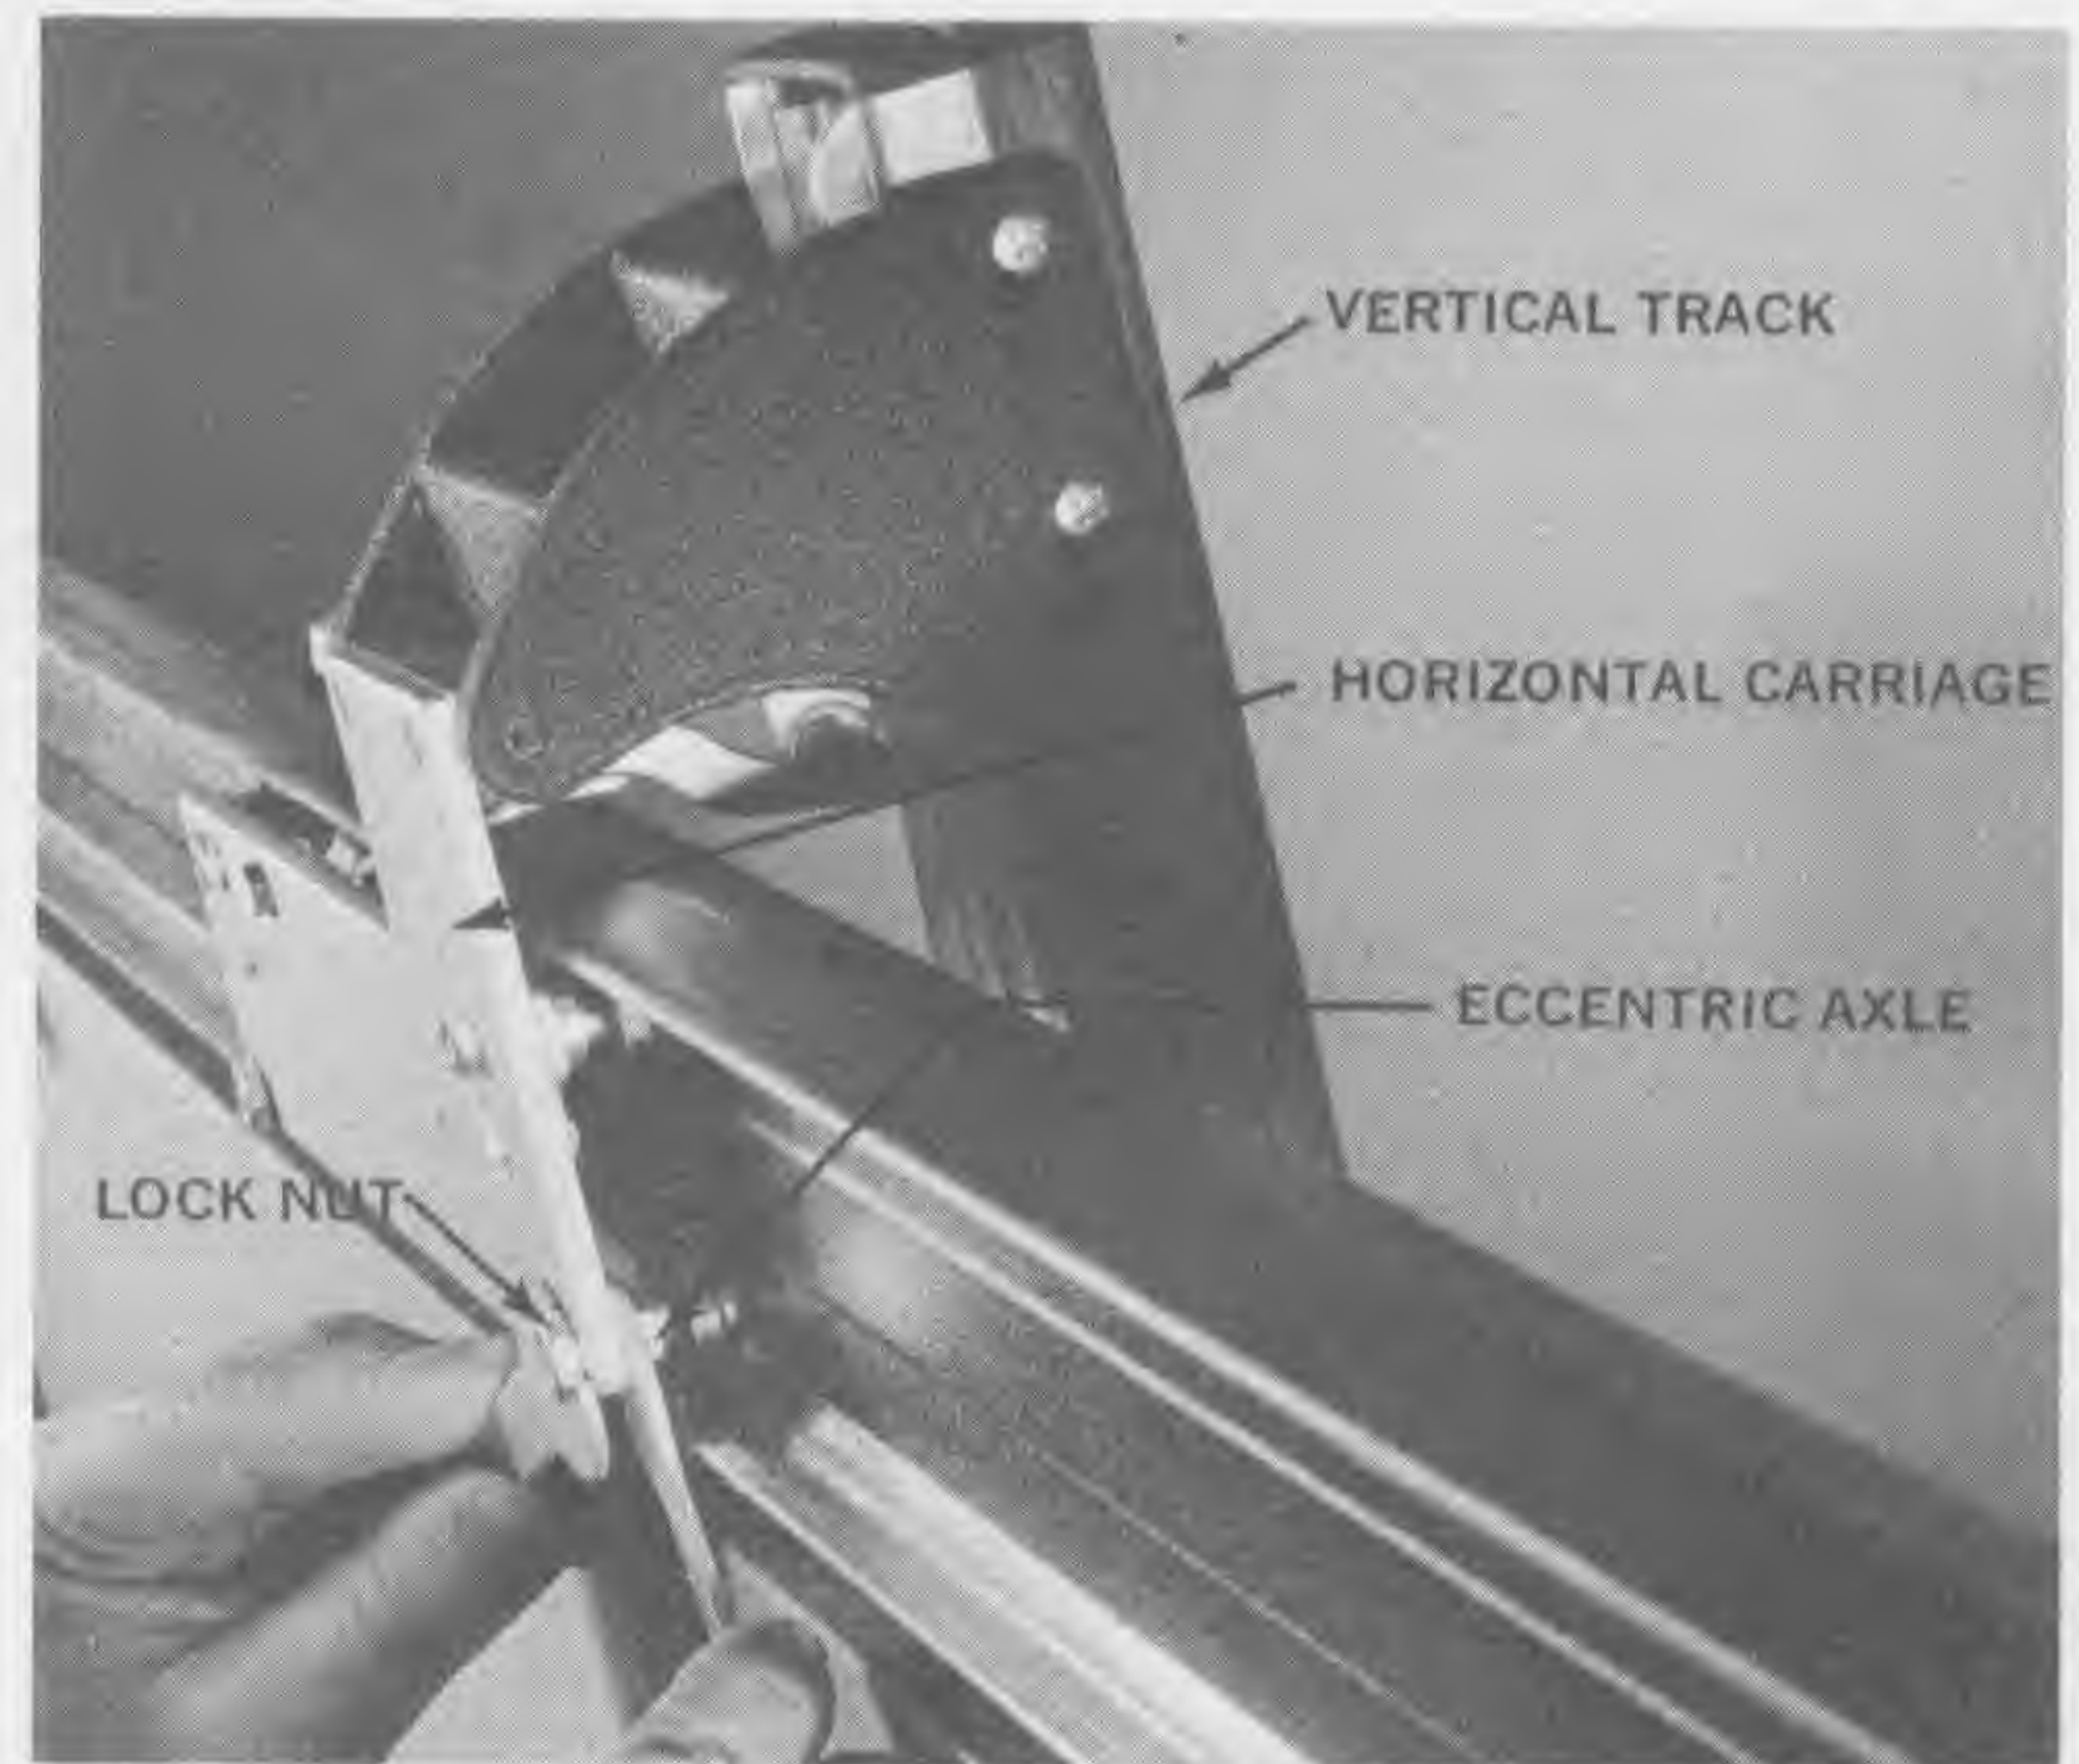

Fig. 21
5. If the above test indicates a significant alignment error, loosen the lock nut on the eccentric axle of one of the two inner (closest to the board, see Fig. 21) rollers of the horizontal carriage with one of the two open-end wrenches supplied with the drafting machine. Then, with the other wrench, rotate the axle (Fig. 21) to bring